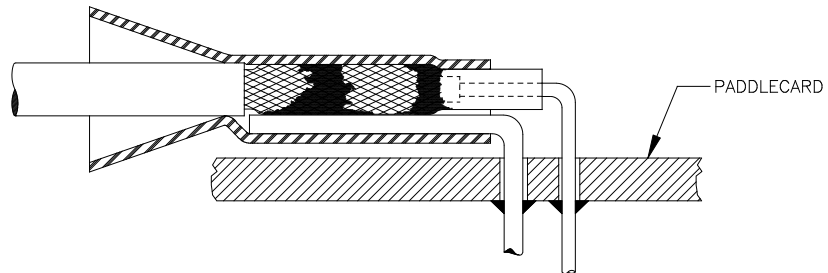

FIGURE 5
- f). To mount terminated cable to Paddlecard, bend center conductor at end of Barrier and Buss Wire at end of sleeve and insert wires through holes in board (Figure 5).